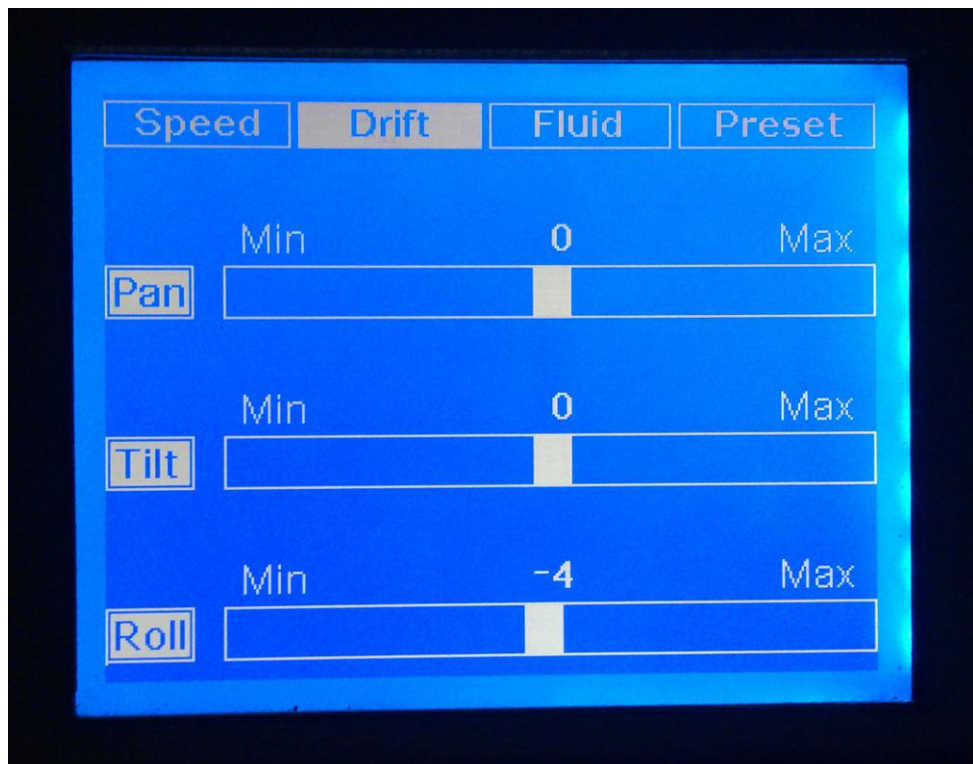

Fig. 4
Active DRIFT menu window is shown in fig. 4. In this mode potentiometers (3), (4), (5) are used to adjust zero drift of the Head axes (PAN), (TILT) and (ROLL).